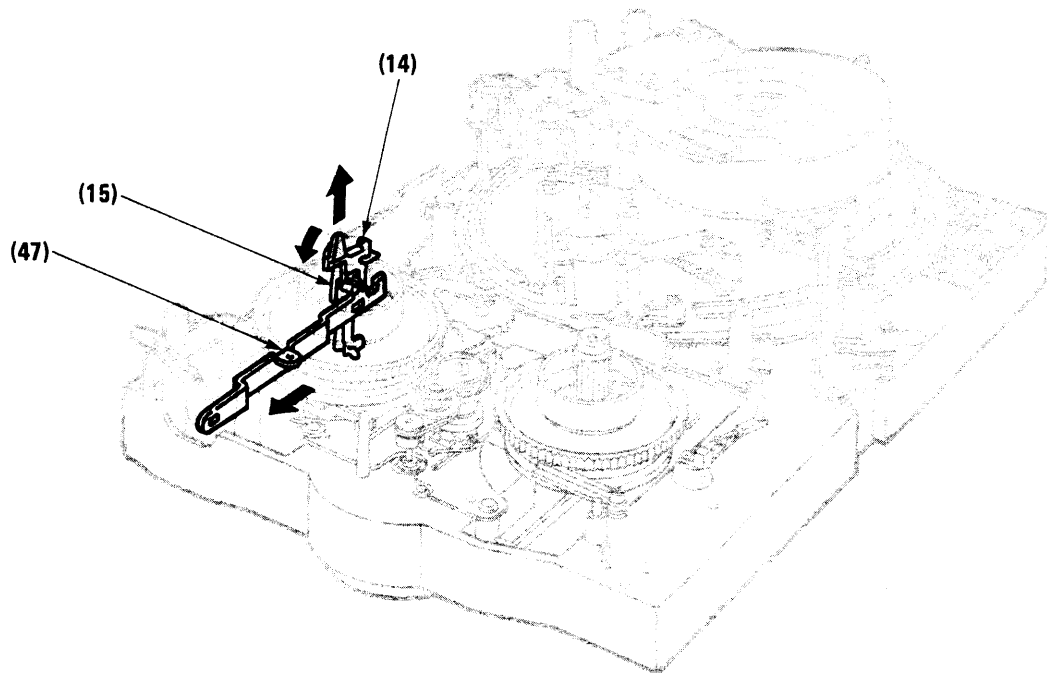

Fig. 3-3-28 CASSETTE-UP mode
11. CASSETTE-UP MODE (See Figs. 3-3-28, 3-3-29.)